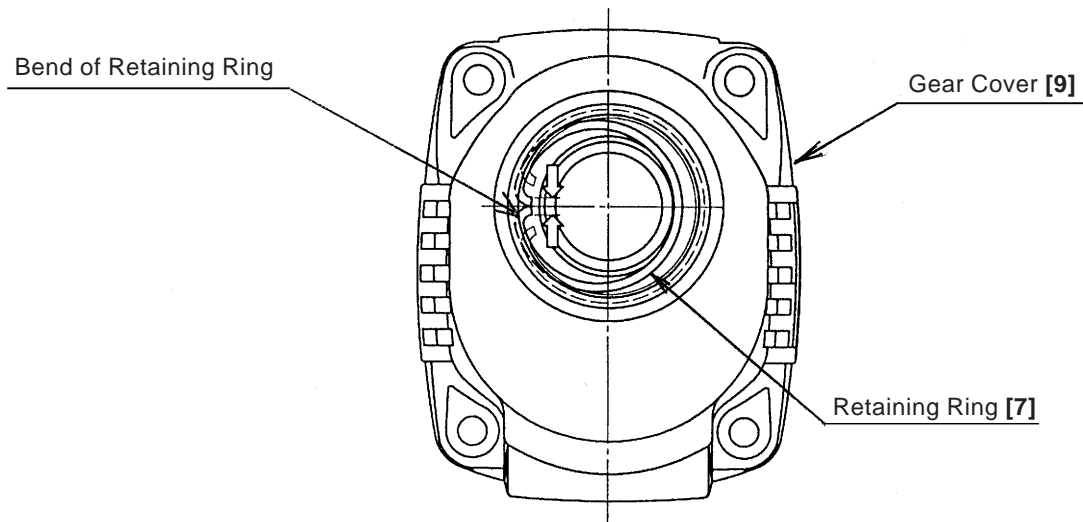

Fig. 5
(4) Disassembly of the Cylinder, Second Gear (Slip Mechanism Section) and Related Parts
- Take the Inner Cover [36] off of the Gear Cover [9], and remove the entire chuck section. Extract the Retaining Ring for D20 Shaft [6]. (For easy removal of this retaining ring, use of special repair tool J-200 snap ring pliers [Code No. 970976] is recommended.) Then, turn the Gear Cover [9], upright and use a hand press to extract the Cylinder [23] from the Gear Cover [9]. The Sleeve [18] can then be extracted from the Cylinder [23]. At this time, be very careful not to lose the three Steel Balls [22]. Remove the Retaining Ring D30 [27] from the upper part of the Cylinder [23]. The second Gear [24], Spring (A) [25] and Washer (A) [26] can then be removed from the Cylinder [23]. Next, extract the O-Ring [30] from the inner part of the Cylinder [23], and the Second Hammer [28] can be extracted from the Cylinder [23]. (For easy extraction of this O-Ring [30], fit a special repair tool J-201 spring hook [Code No. 970977] onto the outer circumference of the O-Ring [30], and pull it out.) As the O-Ring [30] is employed to prevent idle striking, please advise customers to replace it with a new one whenever it is disassembled.
- Extract the Retaining Ring for D37 Hole [20], turn the Gear Cover [9] so that its tip portion is upward, and extract the Ball Bearing [19] from the Gear Cover with a hand press. Pinch the bend of the Retaining Ring [7] with a pair of long-nose pliers in the arrow direction shown in Fig. 5. Catch the loosened Retaining Ring [7] with the spring hook H-75 [J-201] and pull it out.